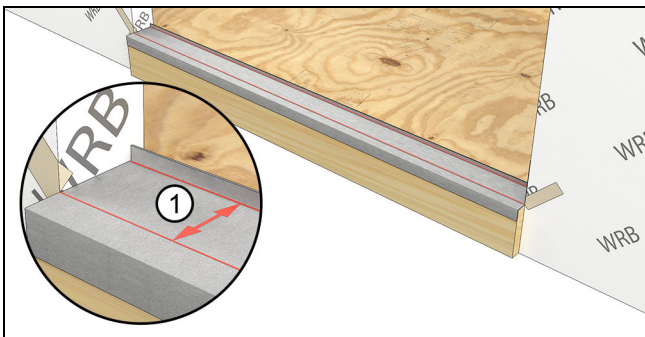
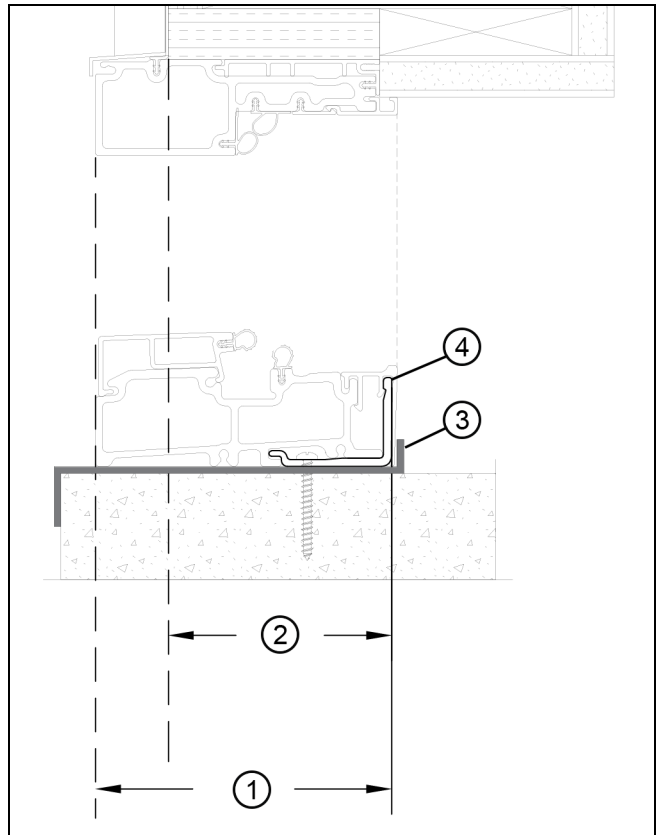

Figure 4
Figure 5
1. Determine the exterior plane of your door installation. You will fasten the sill support 3 5/16" from the nail fin plane (in some instances, the exterior sheathing plane). Snap a line or use a laser level for reference while installing the sill support. If you are installing in a recessed opening measure back from the exterior plane of the door by 4 13/32". See Figure 4 and Figure 5.